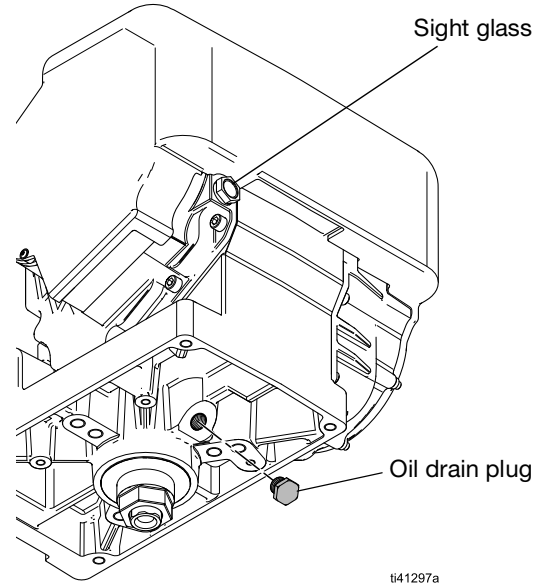

FIG. 2 Oil drain plug
1. Open the fill cap (FC).
3. Check the oil level in the sight glass, see FIG. 2, and fill until the oil level is near the halfway point of the sight glass.